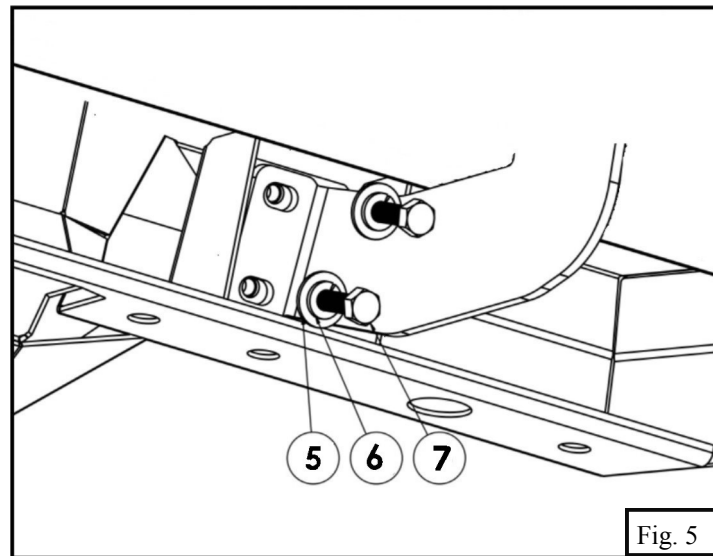

Fig. 5
5. Loosely install board to previously mounted brackets with supplied M8 hardware. See Figures 5 (Note: See **Figures 6 & 7** for bracket orientation).